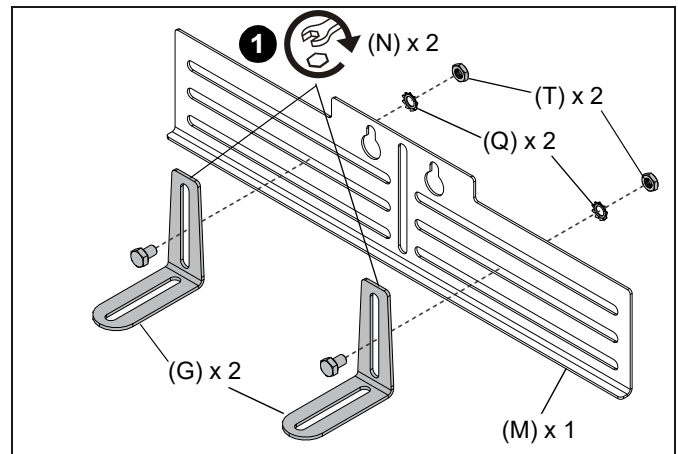

Figure 16
1. Install two camera brackets (G) to the slots in the shelf bracket (M) in the desired locations using two M8 x 12mm screws (N), lock washers (Q), and M8 nuts (T). (See Figure 16)